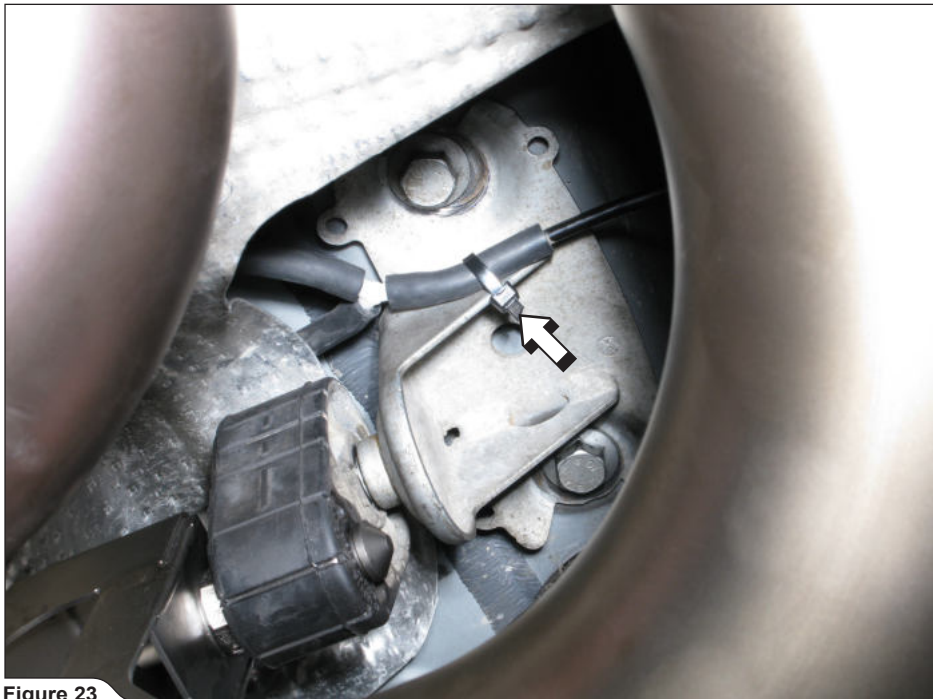

Figure 23
18. Secure the rubber - PVC joint of the vacuum hoses to the right muffler bracket, using additional plastic tie wrap (**Figure 23**).